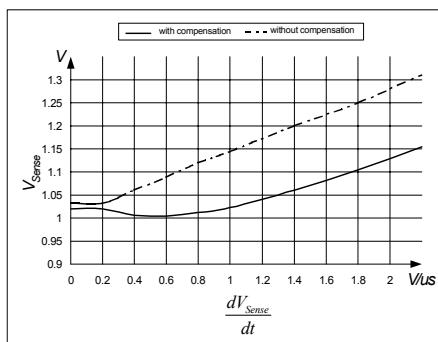

Figure 18 Overcurrent Shutdown
So current limiting is now capable in a very accurate way (see Figure 18).
E.g. $I_{\text{peak}} = 0.5\text{A}$ with $R_{\text{Sense}} = 2$. Without propagation delay compensation the current sense threshold is set to a static voltage level $V_{\text{csth}} = 1\text{V}$. A current ramp of $dI/dt = 0.4\text{A}/\mu\text{s}$, that means $dV_{\text{Sense}}/dt = 0.8\text{V}/\mu\text{s}$, and a propagation delay time of i.e. $t_{\text{propagation Delay}} = 180\text{ns}$ leads then to a I_{peak} overshoot of 12%. By means of propagation delay compensation the overshoot is only about 2% (see Figure 18).